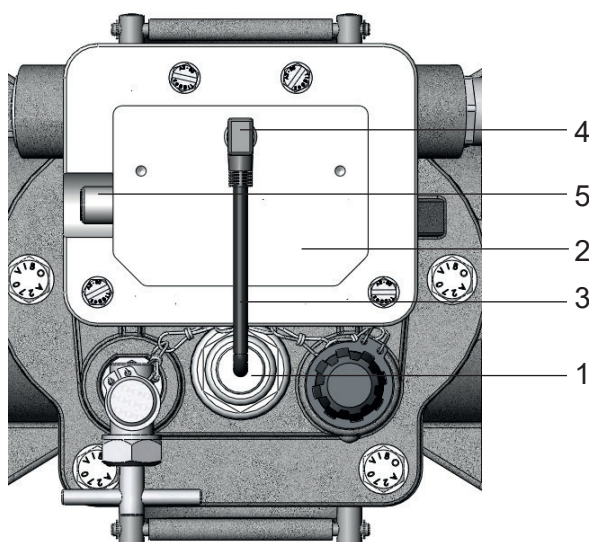

Figure 8 - Cap of the terminal box
The sensor (Fig. 8/ N° 1) is installed in the cover of the Buchholz relay. The cap of the terminal box accommodates the electronic amplifier and evaluation unit (Fig. 8/ N° 2). In as-delivered state both parts are connected by the cable (Fig. 8/ N° 3) and the LS plug (Fig. 8/ N° 4). Operating voltage supply (DC 24 V) as well as signal transmission are through the amplifier output (Fig. 8/ N° 5).
- Insert the four-core cable with integral M12 angle socket into the M12 plug connector of the amplifier output (Fig. 8/ N° 5).